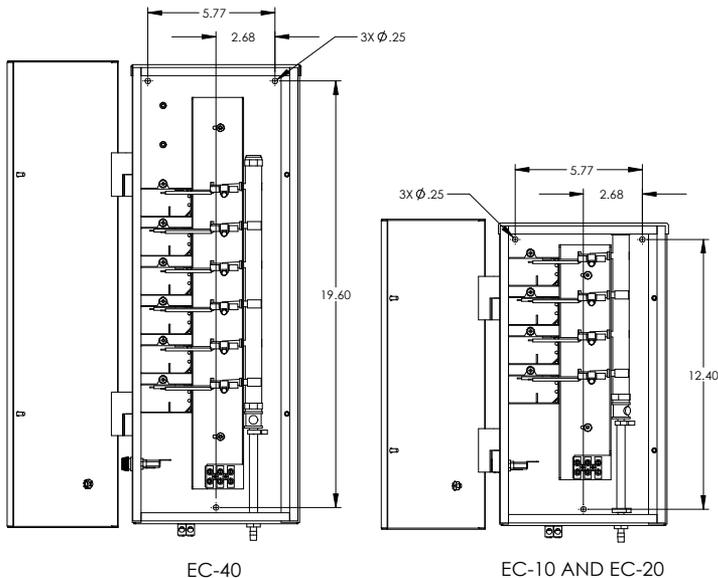

Figure 1: Mounting Hole Dimensions
- A pressure wire connector is provided on the outside of the unit, marked "BONDING LUGS". Connect a minimum No. 6 AWG (13.3 mm²) solid bonding conductor between this point and any metal equipment, metal enclosures of electrical equipment, metal water pipes, or conduit within five (5) feet (1.5m) of the unit or as needed to comply with local requirements.
- Install at least 5 feet (1.5 meters) from wall of pool using nonmetallic tubing. Install ozone generator no less than one (1) foot above maximum water level to prevent water from contacting electrical equipment. Install in accordance with the installation instructions.
- The DEL Eclipse must be installed in an outdoor location, or indoors in a forced air ventilated room, and installed so that the orientation is exactly as shown in Figure 1. Install to provide water drainage of generator to protect electrical components.
1. Open the Enclosure Door and locate the three mounting holes on the back wall of the Enclosure. There will be two holes located near the top on the left and right and one located in the center near the bottom. Refer to Figure 1 for clarification.